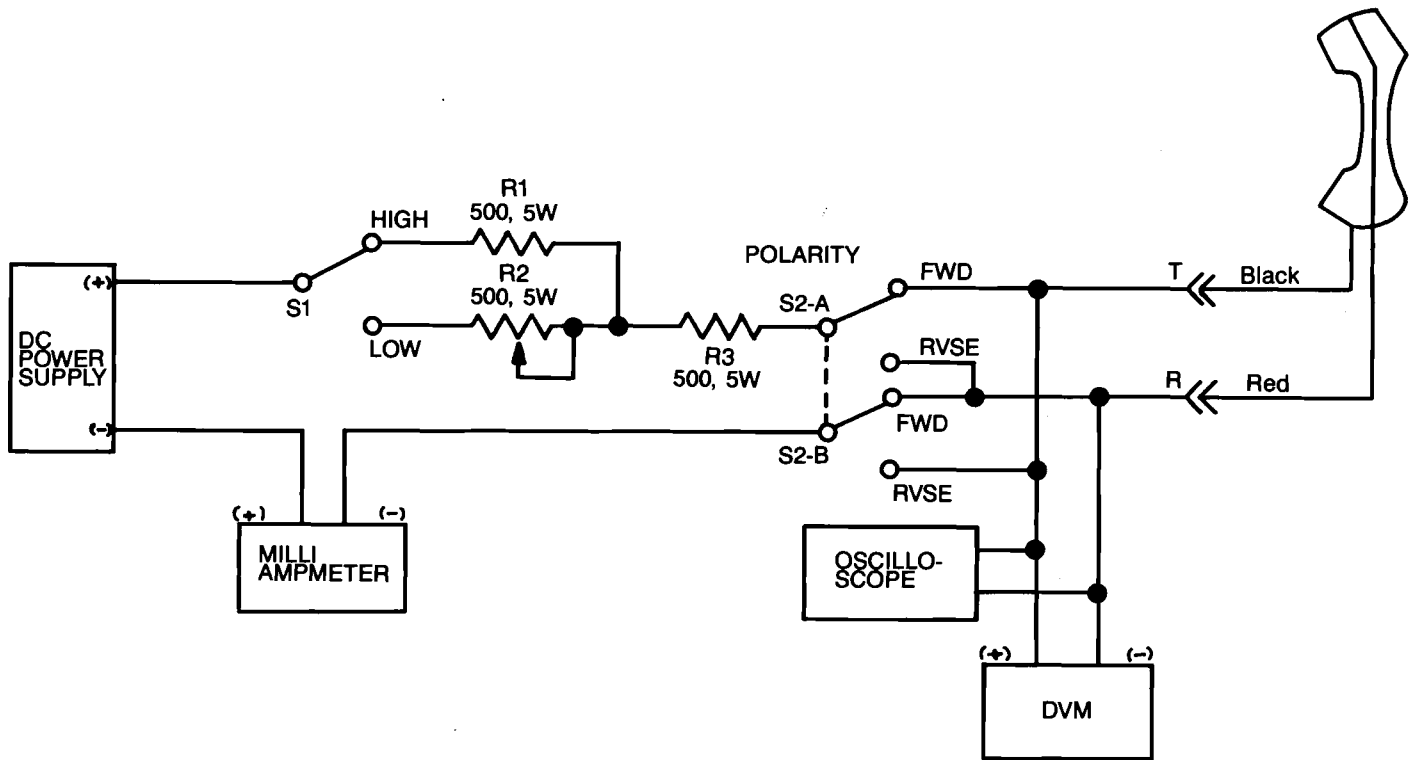

Fig. 11 - Test Equipment Connections for Circuit Tests
6.11 Preparation: To perform any of the following tests, it is first necessary to wire up a test fixture in accordance with Figure 11. Proceed as follows:
- (1) Wire the four resistors and the two switches as shown in Figure 11.
- (2) Label the switches and terminal points as shown in Figure 11.
- (3) Connect the dc power supply, switch S1 and S2, and the milliammeter as shown in Figure 11.
- (4) Connect the black and red test clips of the TS21 to the points designated (T) and (R).
- (5) Also connect the oscilloscope and the DVM to the points designated (T) and (R).
- (1) Set the power supply voltage to 30 ± 0.5 volts.
- (2) Position test fixture switch S2 to **LOW**.
- (3) Select the 200-volt dc scale on the DVM.
- (4) Select the 200 mA scale on the milliammeter.
- (5) Connect the TS21 to the test fixture terminals as shown in Figure 11.
- (6) Position the TS21 **TALK/MONITOR** switch to **M**.
- (7) The DVM should read 30 ± 0.5 volts.
- (8) The milliammeter should not indicate more than 12 microamperes.
- (9) Position the TS21 **TALK/MONITOR** switch to **T**.
- (10) Position the TS21 **KEYPAD** switch to **IN**.
- (11) Position the TS21 **MODE** switch to **TONE**.
- (12) The DVM should read between 4 and 8 volts.
- (13) The milliammeter should indicate between 22 and 26 milliamperes.